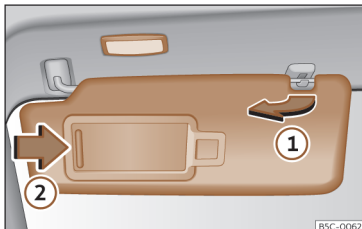

Fig. 100 Sun visor
- The sun visor can be pulled out of its mounting and turned towards the door >>> **Fig. 100 ①**.